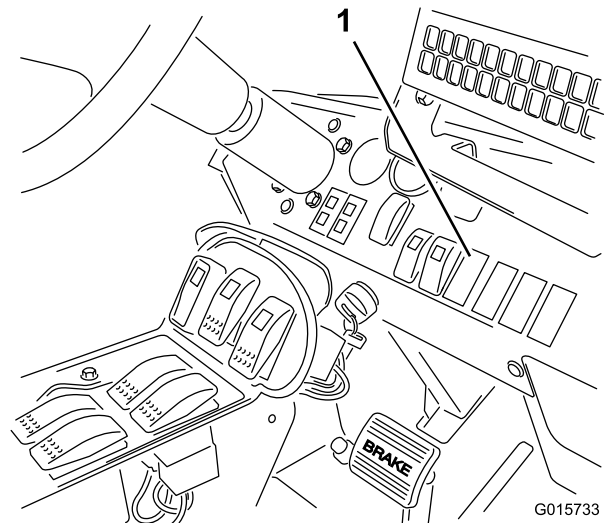

Figure 18
2. Remove the switch plug on the dashboard in the location shown in Figure 18.